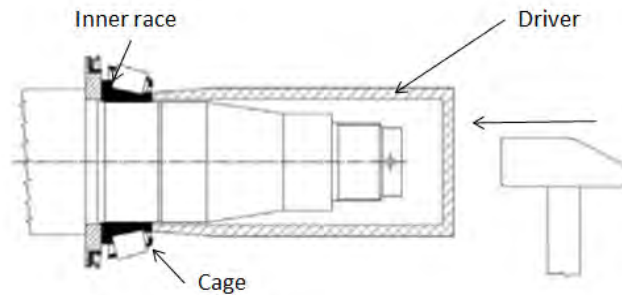

Figure 58 — Reassembling the Wheel Bearings
4. Put the inner race of the large bearing all the way onto the spindle. Be careful to avoid damaging the bearing cage. If needed, use a tool to put the inner race/rollers/cage assembly back on the spindle, as shown in Figure 58. The force must only be applied to the inner race, and never to the cage or rollers, which could damage the bearing.